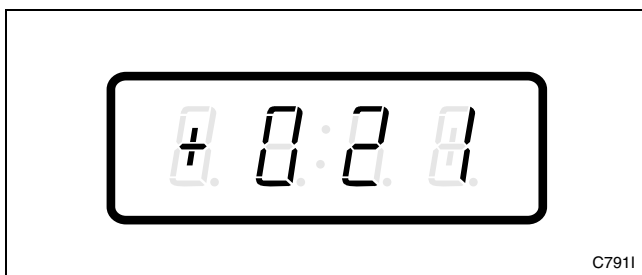

Figure 88
3. Press the DELICATES (+) or the COLD (-) keypad to scroll through the programmable options until “+021” appears in the VFD. Refer to *Figure 88*.